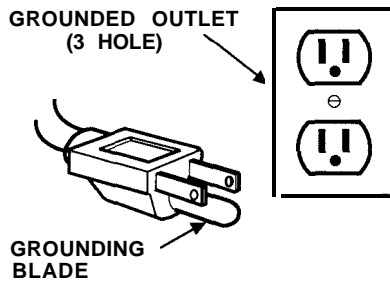

Fig. 5
2. Plug extension cord into a grounded (earthed) power outlet. (figure 5)